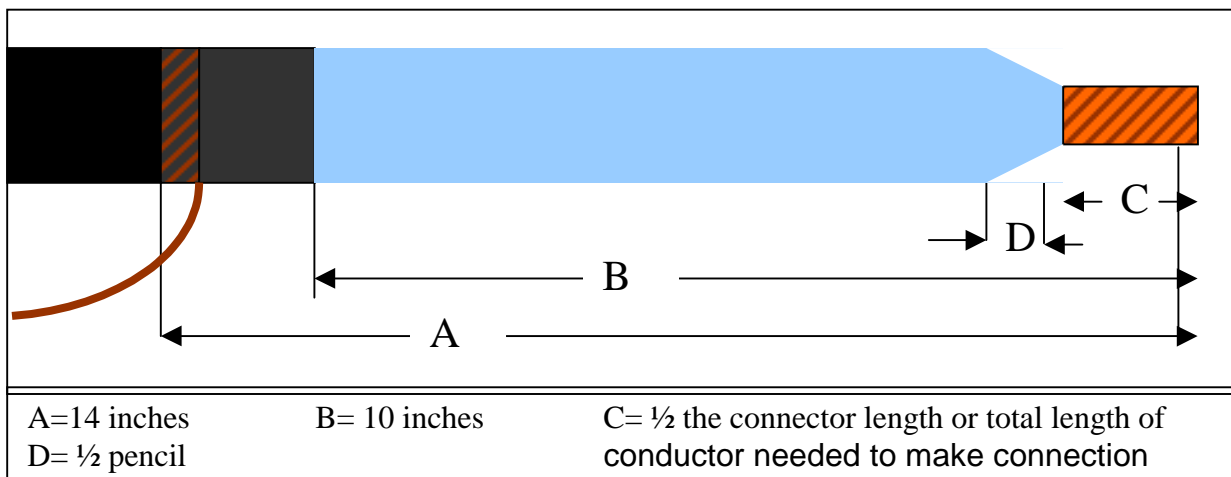

Figure 1, Prepared cable
- Pencil the insulation for $\frac{1}{2}$ of an inch. When finished the cable should look like that in Figure 1.